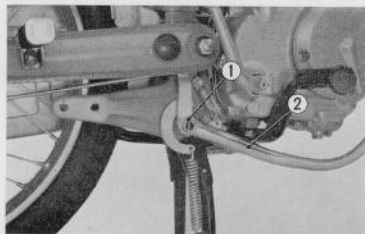

Fig. 4.61 Removing 3 mm cotter pin.
- (3) Remove the 3 mm cotter pin ① from the rear brake pivot pipe (Fig. 4.61)
- (4) Remove the rear brake adjusting nut and remove the brake rod from the rear brake arm.